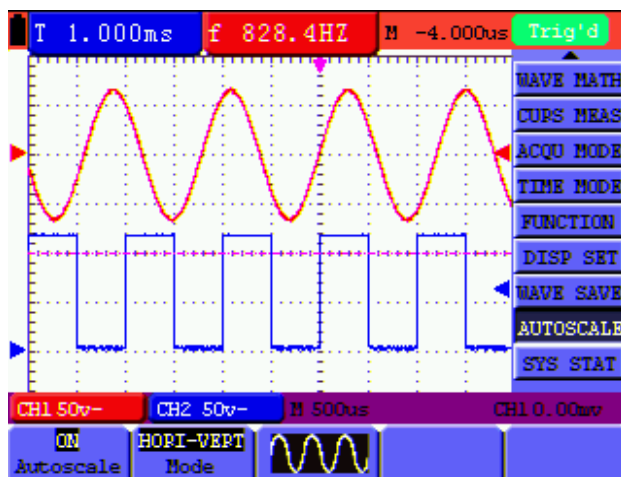

figure 52: Autoscale Horizontal- Vertical multi-period waveforms
6. Press **F3** and  displays on the screen as figure 52: